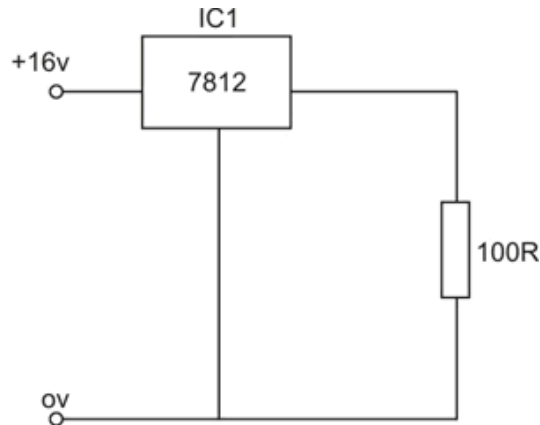

Figure 13. Fixed voltage three terminal regulator
5. State the expected voltage across the 100R resistor in Figure 13 under the following conditions: